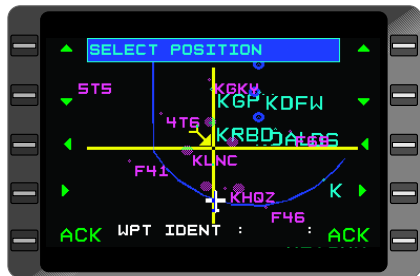

Figure 7-170
2. The **MAP** page will display again with the crosshair tool visible on the page. See Figure 7-170. Use the associated line select keys following the arrows to reposition the crosshair tool to the desired point on the map.